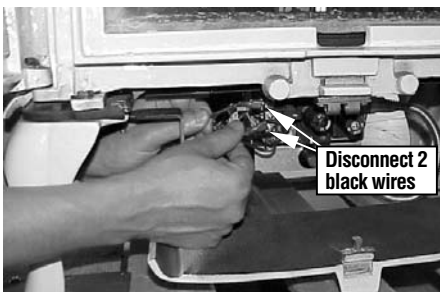

Figure 2
2. Disconnect the 2 black wires from the on/off switch at the valve (from terminals TP/TH and TH). See Figures 2 & 10.